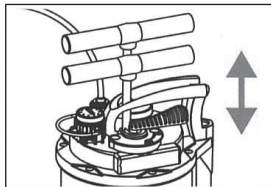

Figure 9
2. Pump the handle up and down to discharge the fluid (Figure 9).